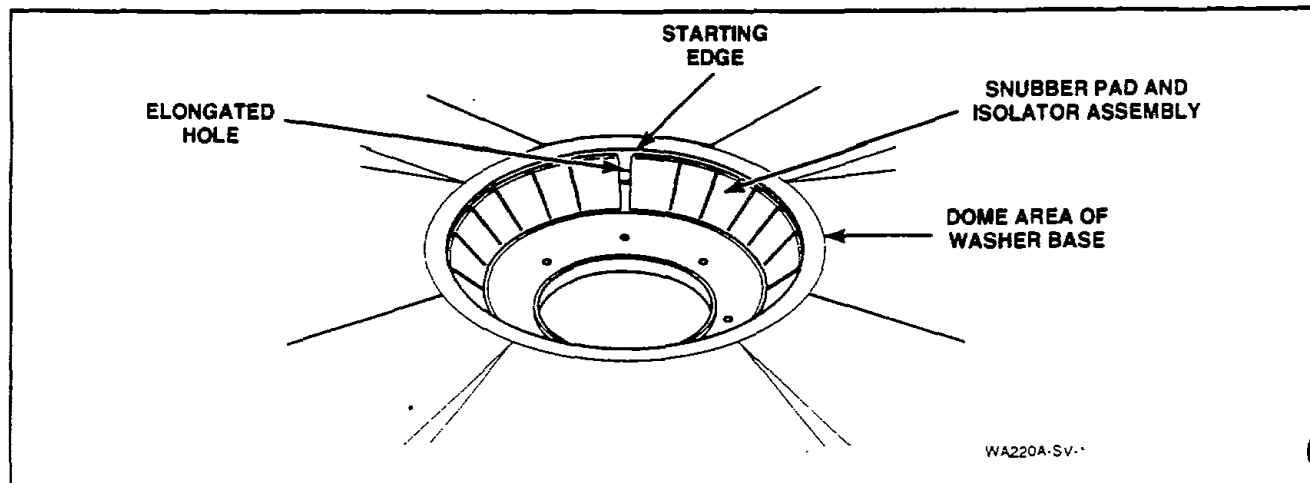

Figure 66
- Locate the split end of the snubber pad and isolator assembly and using a flat blade screwdriver, carefully unsnap the assembly from the pivot dome area of the washer base, *Figure 66*.